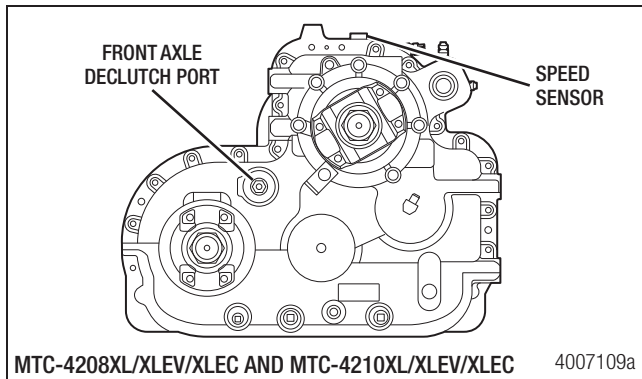

Figure 7.49
- If removed, install the speed sensor into the top of the transfer case. Figure 7.49. Fasten with a capscrew and washer.
1. Apply 60 psi (4.14 bar) or greater of air pressure to the front axle declutch. Figure 7.49.